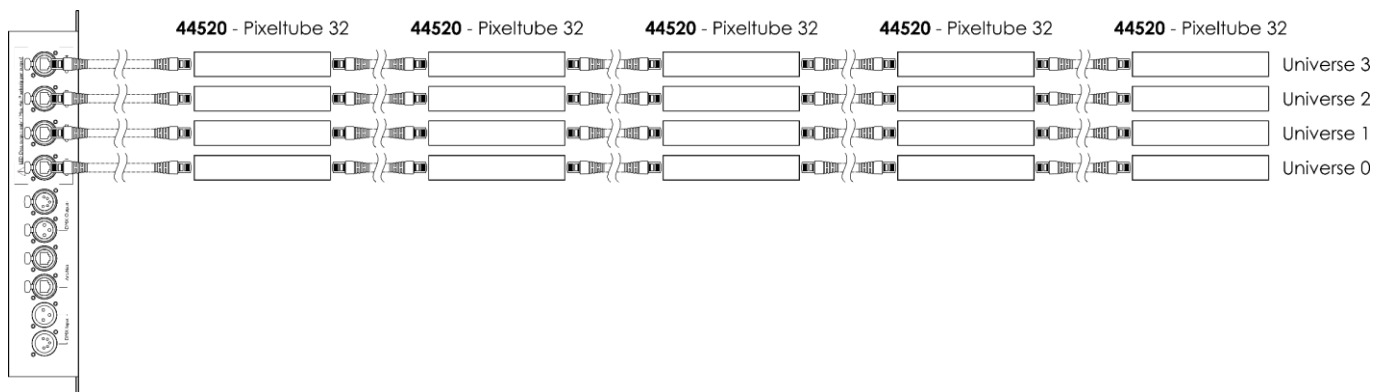

Fig. 06
Connect the Pixel Controller's output port to the Pixeltube's **RJ45 input connector (03)** with a CAT cable (max. 10 m). For more information about the connection of power supply, see Fig. 06 on page 10 and refer to the user manual of the Pixel Controller (44510).
- 04) Repeat step 3 to connect up to 5 Pixeltubes per output, as shown in Fig. 06 on page 10.